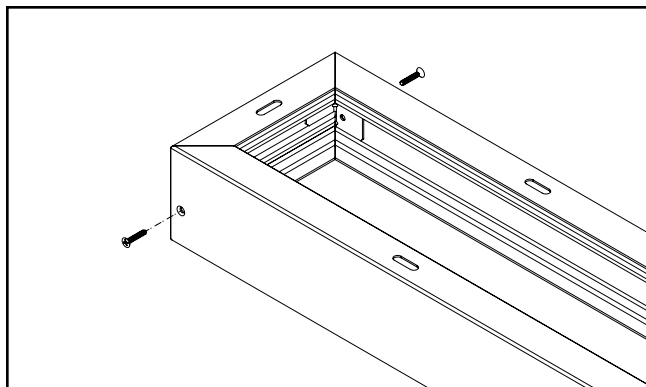

Figure 3.
- A3. Use the 4 included screws to secure the short rails to the long rails (1 screw per corner) as shown in Figure 3.